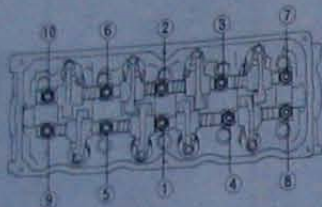

Fig. 2.10 Rocker shaft retaining bolt tightening sequence (Sec 17)
- 3 Slacken all the rocker shaft retaining bolts half a turn at a time in the reverse order of the tightening sequence (Fig. 2.10) to relieve all the valve spring tension. **Note:** Unscrew the bolts fully from the cylinder head but do not remove the bolts from the rocker shafts.
rocker assemblies to the cylinder head, ensuring that the shaft always aligns with those in the cylinder head. Tighten the rocker shaft retaining bolts to the specified torque in two stages in the order shown in Fig. 2.10 (photos). **Note:** Take great care to ensure that the rocker shaft springs do not become trapped between the shaft and cylinder head or retaining plates whilst tightening the bolts.